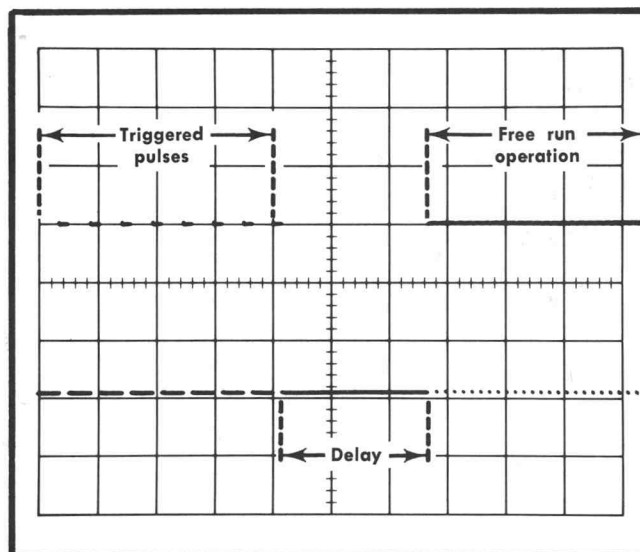

Fig. 6-19. Typical CRT display when checking sweep free run delay.
g. CHECK—Sweep free run delay is between 2 and 4 seconds. See Fig. 6-19.